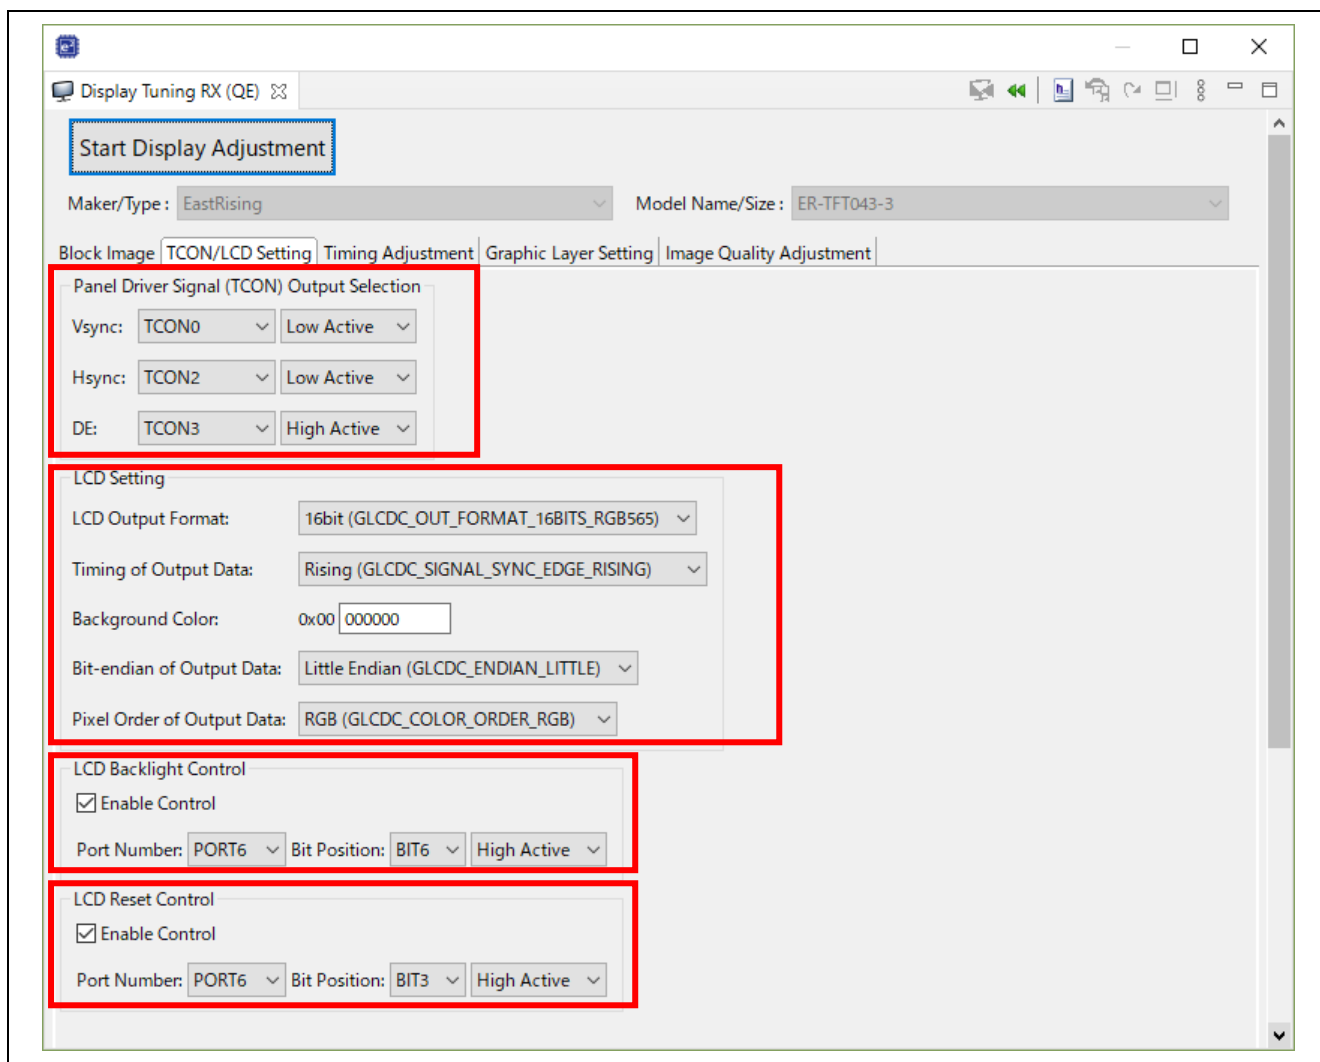

Figure6-4 "TCON/LCD Setting" Tabbed Page
Select the “TCON/LCD Setting” tabbed page in the “Display Tuning RX (QE)” view and specify the settings for the output of control signals (Figure6-4).